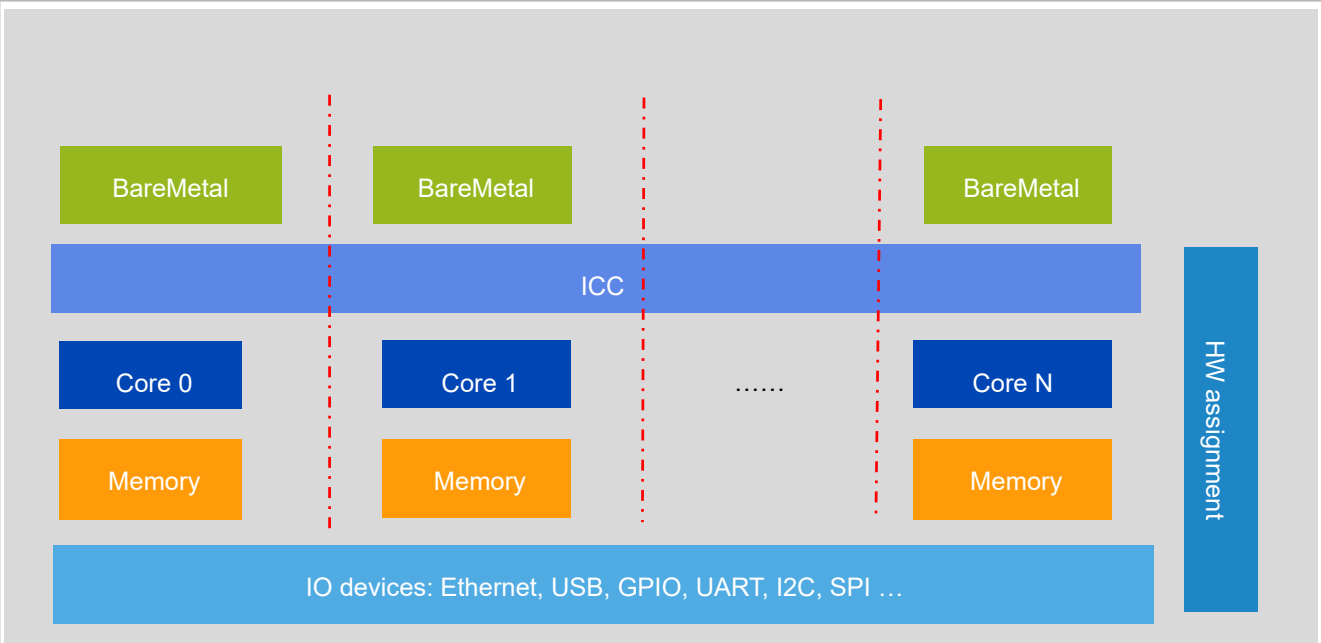

Figure 9. BareMetal Use Case 2
2. All cores run BareMetal application for real-time processing. Refer Figure 9.